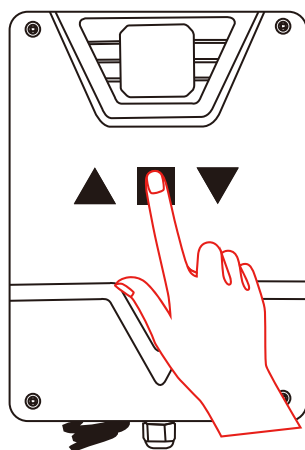

Figure 12
**Step 2.** Press and hold the “**Stop**” button for about 6s until the buzzer sounds 2 beeps, then release the button right now. Within 1.5s, Press “**Stop**” button **again**, the buzzer sounds 1 long beep and trigger the learning of opened/closed in position. You need to complete the setting operation within 99s. Fig 12